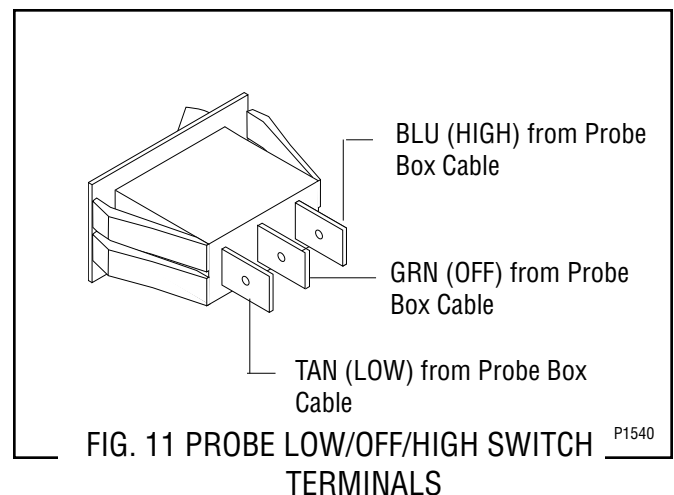

FIG. 11 PROBE LOW/OFF/HIGH SWITCH TERMINALS
5. Refer to Fig. 11 when reconnecting the wires.